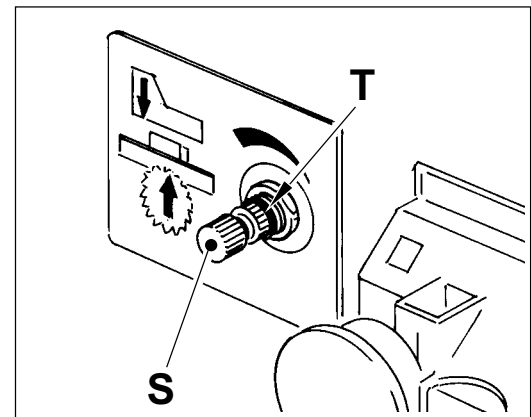

Fig. 5-2 Blade speed
- Make sure speed is correct, then tighten the ring nut **T** (Fig. 5-2).